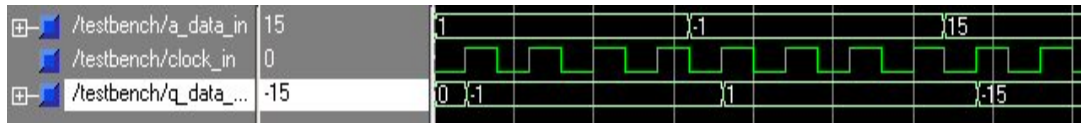

Figure 10; ModelSim Waveform with radix changed
In this section we'll use what we just learn to implement the adder/subtractor shown in figure 10. The adder block and the 2's complementer block will be created using Coregen. You will need to create a wrapper file and structural description to connect these elements together and build the system.
From the lecture notes it is known that in order to subtract ($A - B$) two numbers in 2's complement representation the operand (B) must be complemented and the result added to the second operand (A). Schematic shown in figure 10 has a 2's complement block with a signal named **bypass** which will enable or disable the 2's complement block according to the **add_sub** input signal of the system. Let say we want to add A and B. **add_sub** signal will then be high (1) and the 2's complement block will be bypassed. As a result A and B get added by the Adder block. Let say that now we want to subtract A and B ($A - B$). **add_sub** signal will now be low (0), the 2's complement block will take B and calculate its complement to send it to the Adder block. The adder block will add A and the 2's complement's of B which is equivalent to subtract B from A ($A - B$).
6. Complete the system description; Using structural description; complete the description of the system filling out the connections in the component instantiation section of the code, following the schematic shown in figure 10. The connections you have to complete are drawn in green. Note that the output “**Q**” of the 2’s complement block is 6 bits wide and the input B of the adder-subtractor is only 5 bits wide. Here you will have to left unconnected the most significant bit of “**Q**”. (Hint: instead of connecting “**Q**”, connect only **Q(4 downto 0)**). This will left unconnected Q(5).